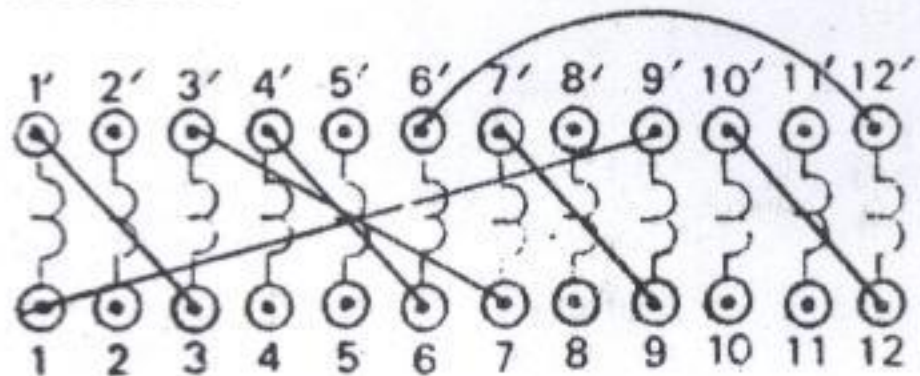

FIGURE 4: SERIES GENERATOR
1. Connect the Dynamometer to operate as a shunt motor as shown in Figure 4. Adjust the Dynamometer Field Rheostat to its minimum resistance (fully counter-clockwise) position and the auxiliary resistance switch to "out".
2. Connect the ULM to operate as a series generator as shown in Figure 4.